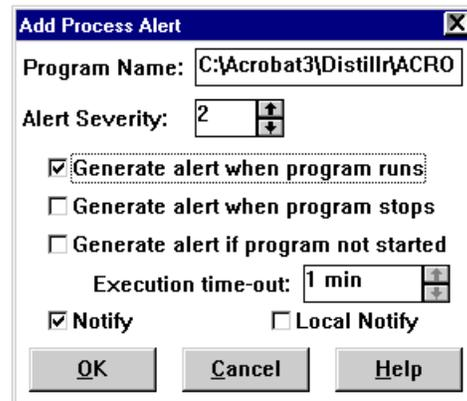

Figure 134. Adding an Alert When ACRODIST Starts
7. This time, fill out an alert for when ACRODIST starts or restarts, as per Figure 134 on page 175.
Once the ACRODIST program is restarted, we want the alert to be sent to the administrator's workstation. As this was already configured in Figure 134 on page 175, there is nothing further to do.